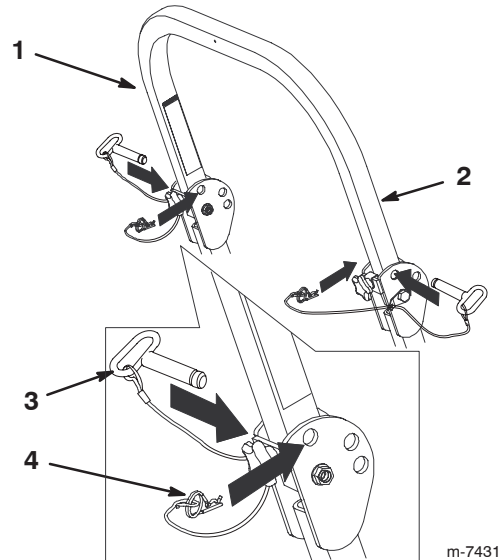

Figure 2
2. Remove the hairpin cotter pins and remove the 2 pins (Fig. 2).
4. Install the 2 pins and secure them with the hairpin cotter pins (Fig. 2).
5. To raise the roll bar, remove the hairpin cotter pins and remove the 2 pins (Fig. 2).
6. Raise the roll bar to the upright position and install the 2 pins and secure them with the hairpin cotter pins (Fig. 2).